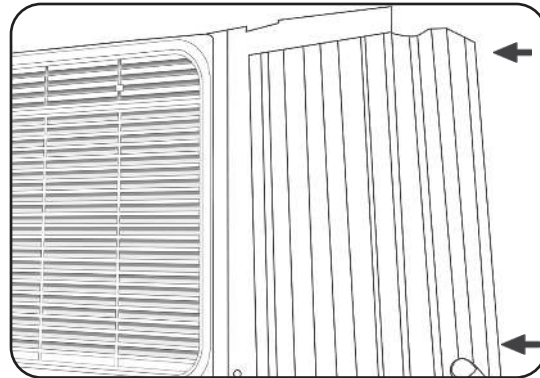

Fig.4
- Once the accordion panels are slid into place, push the top and bottom rails of the accordion panels into the top and bottom rails of the air conditioner **(See Fig.4).**